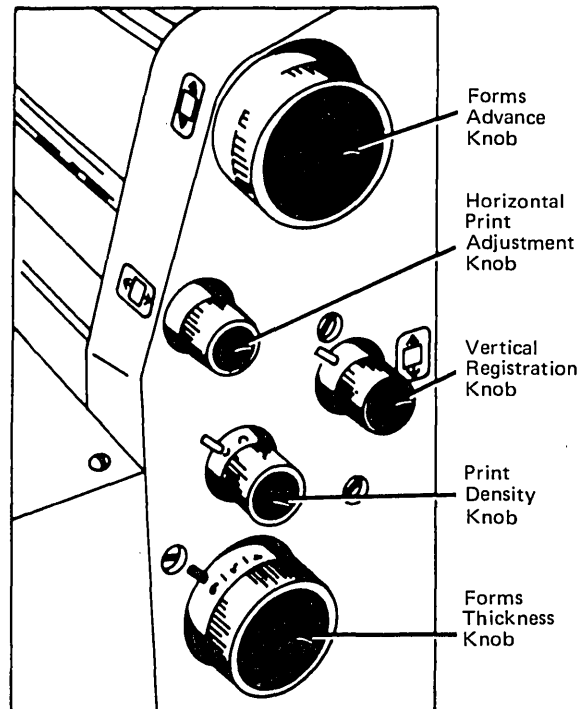

Figure 18. Manual Controls
Use the manual controls (Figure 18) to adjust the position of the forms in relation to the carriage and the hammer unit, and to make adjustments for print quality.
6. Close the ribbon shield. Lift both tractor tabs and align the forms horizontally against the hammer position indicator scale (Figure 24) according to your instructions for the job. (For preprinted forms, a given hammer position must normally be aligned with a particular point on the form.) Turn the horizontal print adjustment knob (see Figure 18) to move the forms exactly into position.
the forms advance knob (see Figure 18) until the perforation between the first and second sheets is aligned with the top of the scribed line on the printer (Figures 25 and 26). Set the paper brake to position 1, 2, or 4, depending on the number of parts to the forms. (With some forms, results can be improved by trying a different setting.) Close the swing gate.